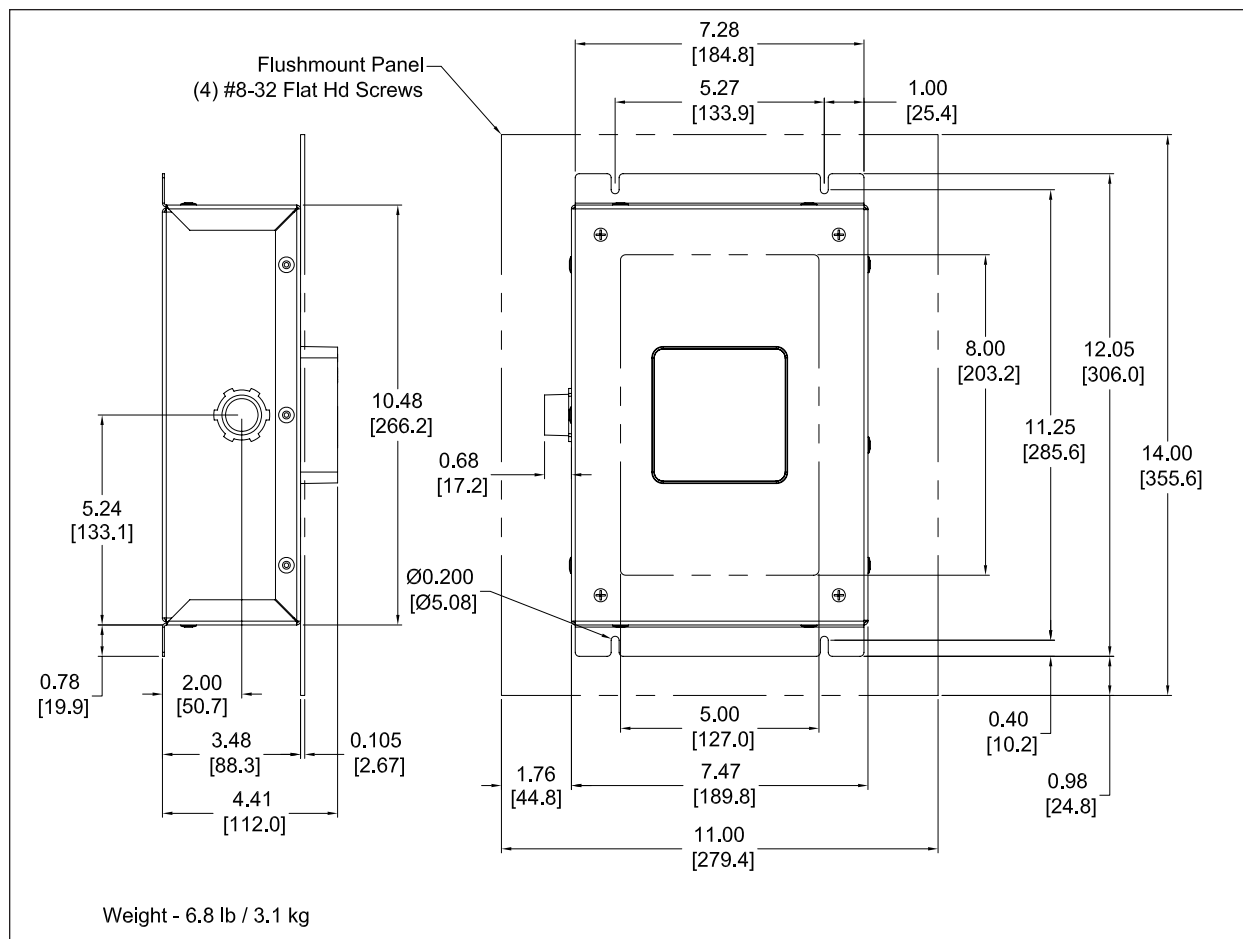

Figure 2. NEMA 1 (With Flushmount) (Suffix L)
1. Before mounting the SPD first determine the ideal location and ensure that the mounting surface is sufficient to support the weight of the SPD (See Figures 2, 3, 4, 5, and 6 on pages 4, 5, and 6 for model weights). The SPD should be mounted as close a possible to the electrical enclosure and as close as possible to the wiring connection point within the enclosure. This will ensure a minimum wire length and maximum SPD performance.
2. Lay out the four enclosure mounting holes using the enclosure dimensions provided in Figures 2, 3, 4, 5 and 6 on pages 4, 5 and 6. Drill the appropriate holes per the product dimensions. Note: NEMA 1 enclosures require a #10 fastener and NEMA 4 and 4X enclosures require a 1/4 inch fastener.